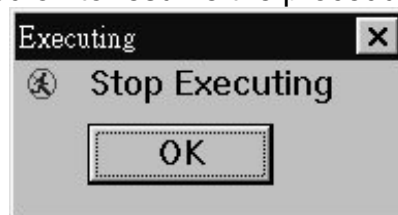

Fig. 18: Stop executing
- b. **Load:** Two major tasks are performed. Firstly, to load an open source file to the buffer inside DWTR. Secondly, to read and compare the buffer against the file. The code dumping can be terminated by pressing the [OK] button depicted in Fig. 18, which is located on the up-left corner of the whole display. However, the power of the hardware must be turned off and turned on to resume the procedure of programming.